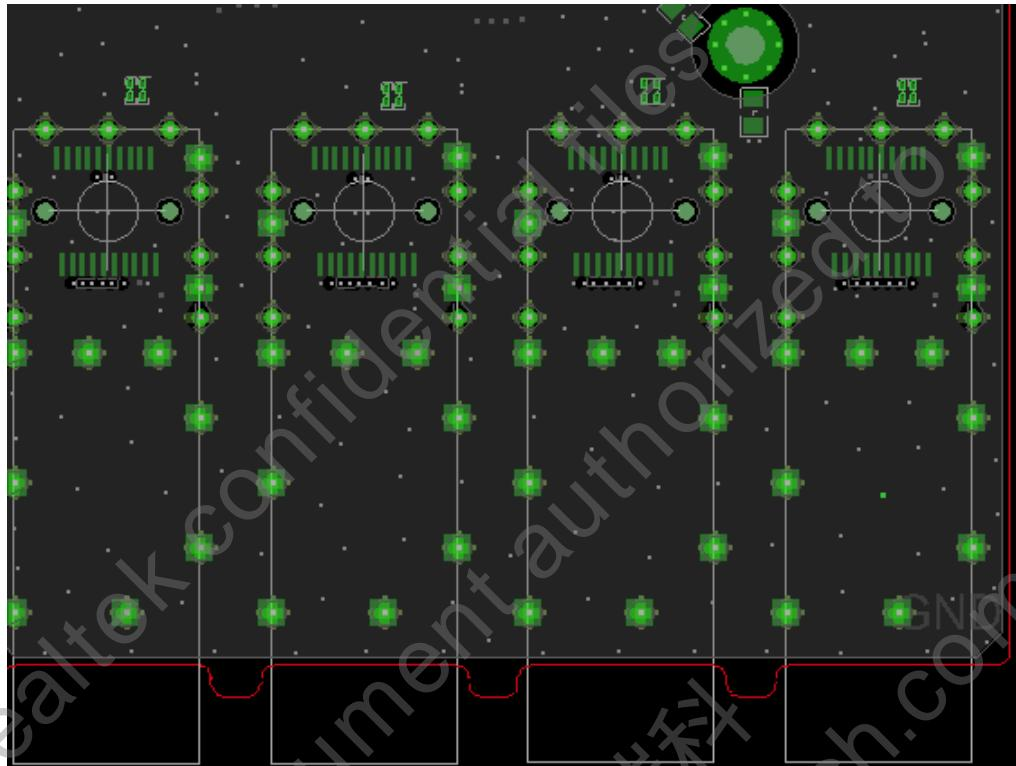

Figure 29. GND plane on Layer 2 in 4-layer PCB for Fiber
- Merge Fiber\_Cage\_GND with System\_GND together(See Figure 29) will improve its ESD performance.